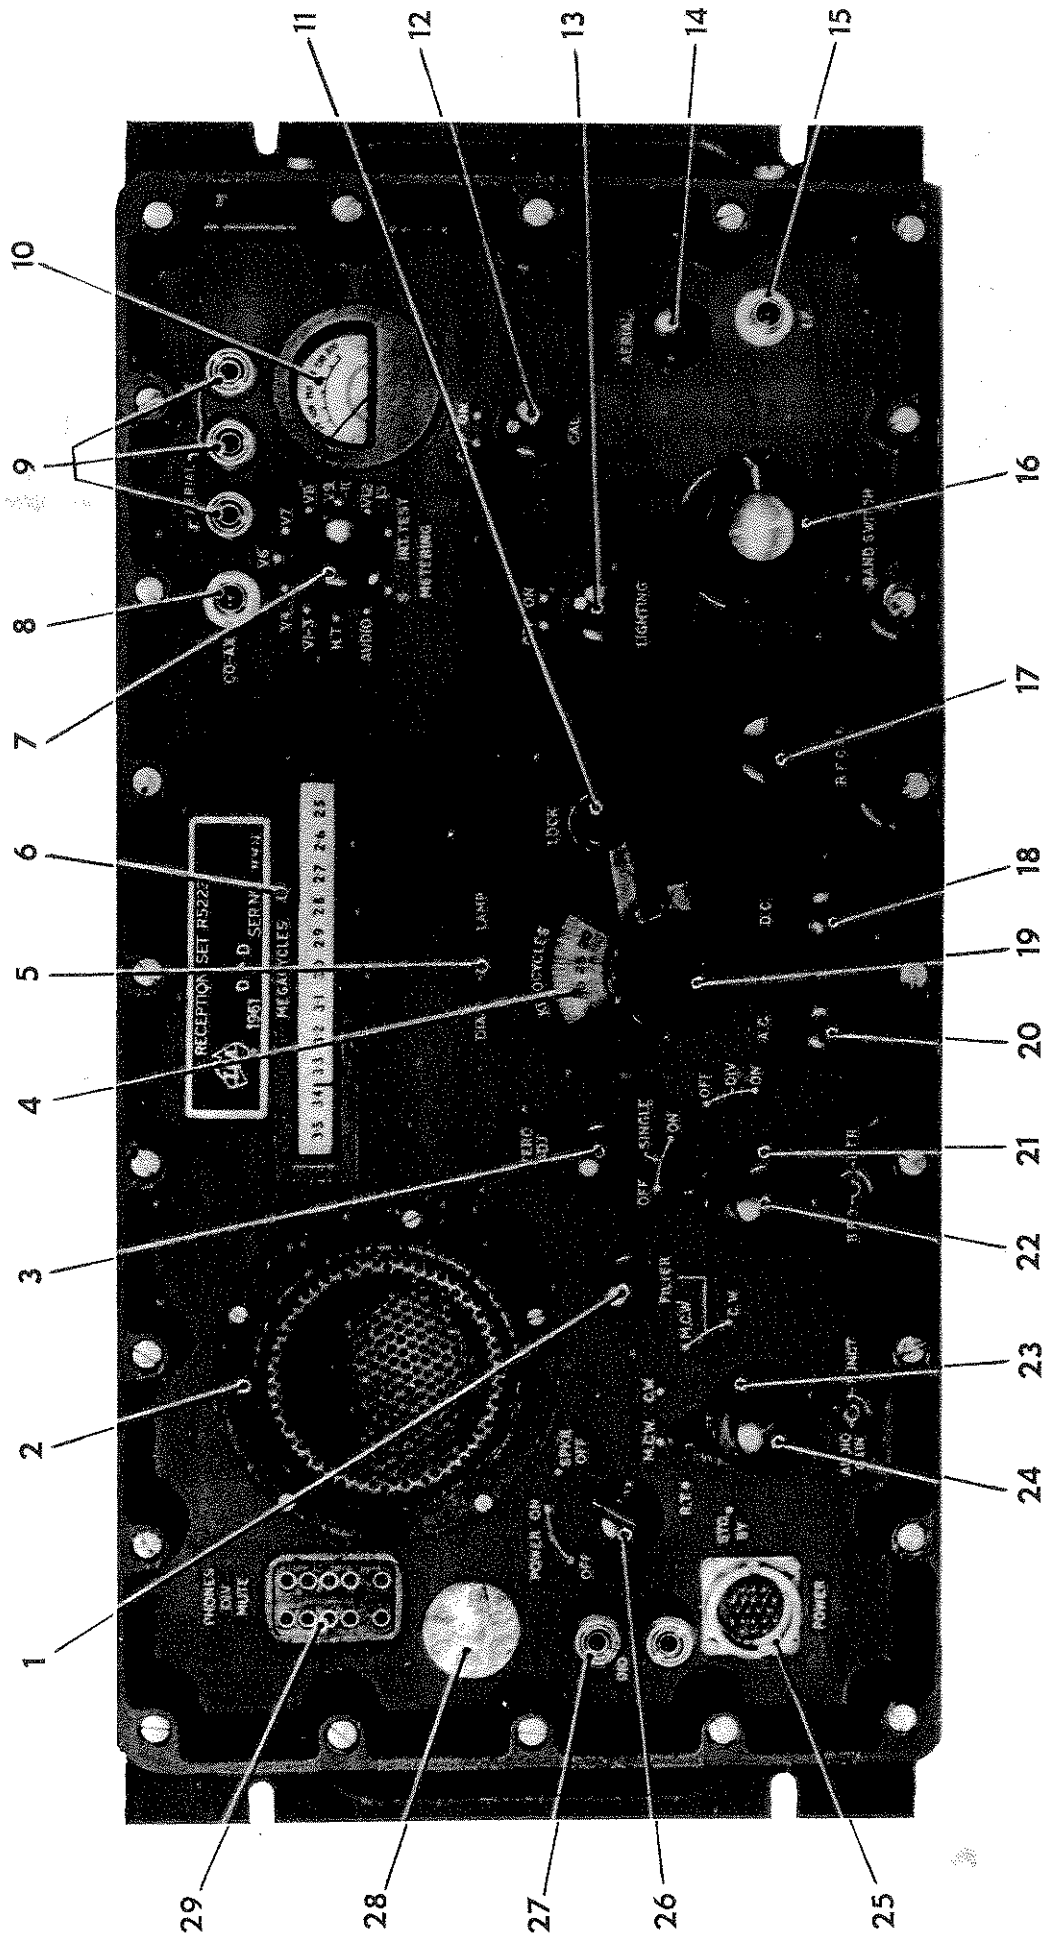

FIG 2 RECEIVER, RADIO, R5223 CONTROLS AND CONNECTING POINTS
17. All controls and connecting points are located on the front panel of the receiver. They may be identified by reference to Fig 2 and Table 1.
(See Fig 2)